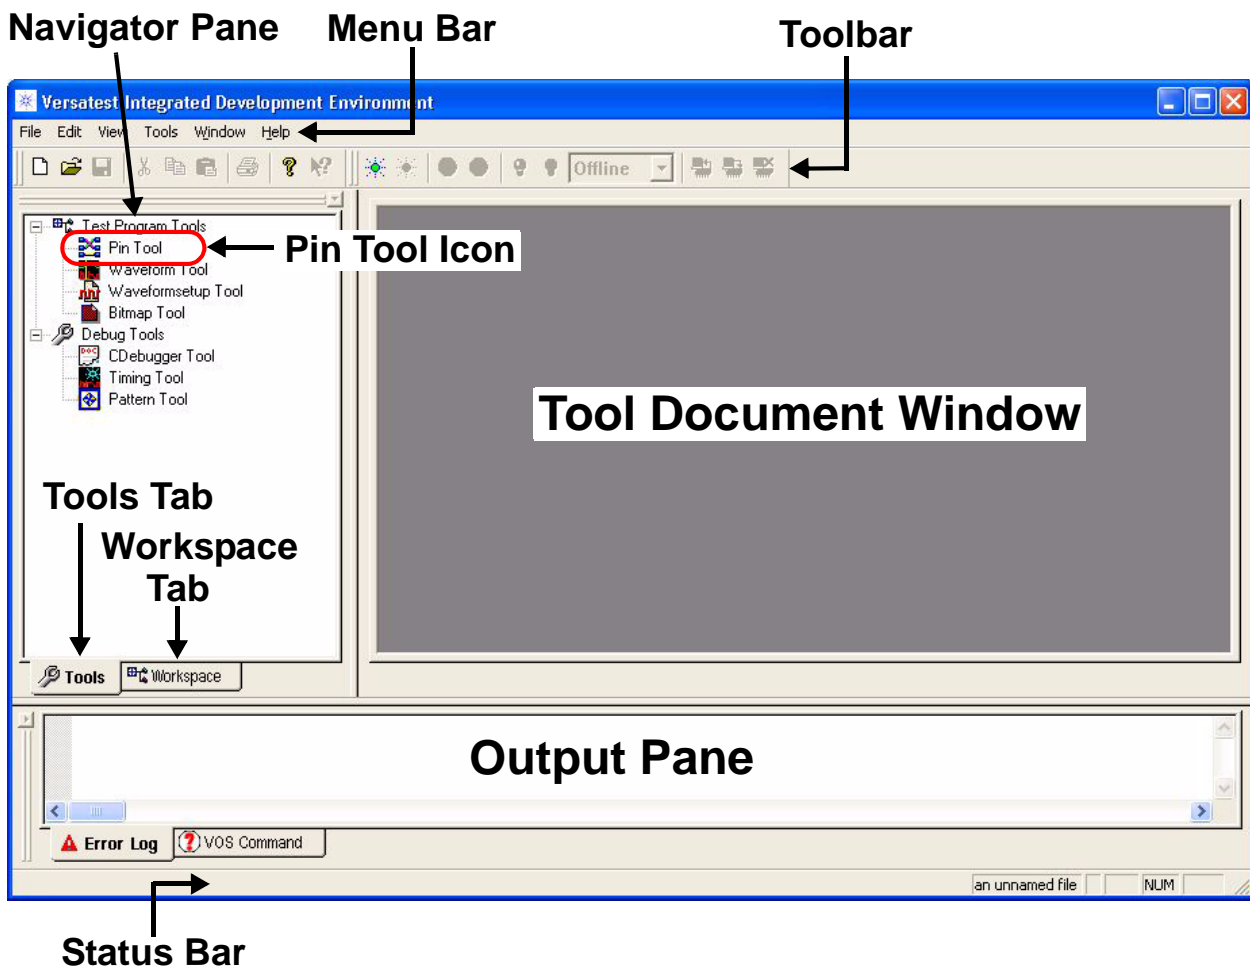
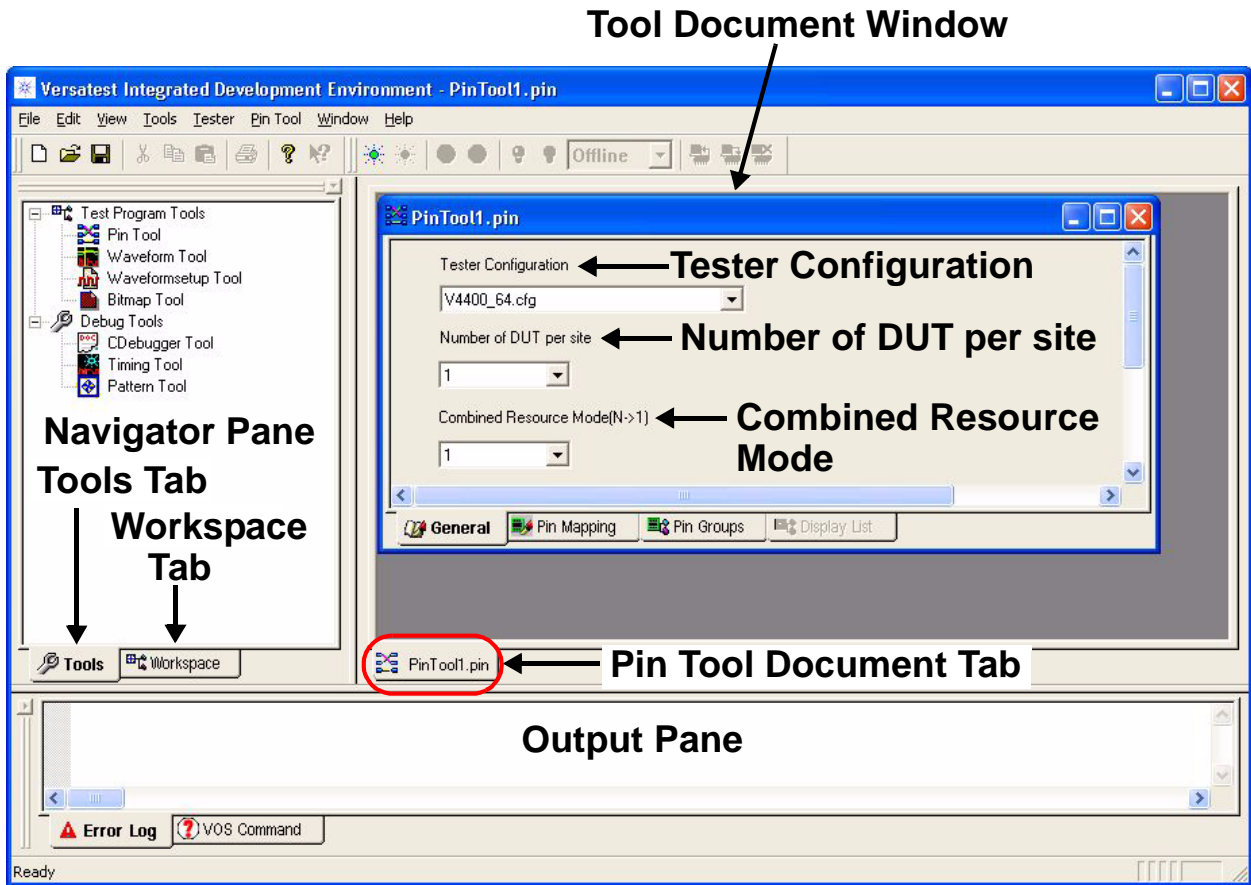

Figure 3-20. Versatest Integrated Development Environment Main Window
Figure 3-21. Pin Tool Default Main Window
- 1 Selecting  > Programs > Versatest Test System Software > Integrated Development Environment displays its default main window (Figure 3-20).
- 2 Double-clicking the Pin Tool icon on the Tools Tab in the Navigator Pane (Figure 3-20) displays the Pin Tool as the active tool in the Tool Document window (Figure 3-21). This also adds the Pin Tool Document `PinTool1.pin` tab at the bottom of the Pin Tool Document window, and its menu bar and toolbar.